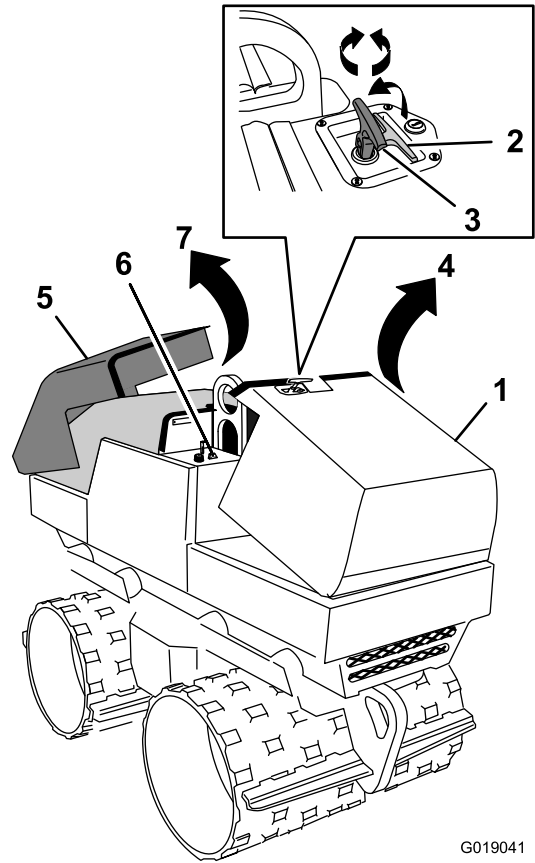

Figure 26
1. At the forward hood, pivot the latch handle for the hood to the vertical position (Figure 26).
2. Rotate the latch handle clockwise (Figure 26).
3. Grasp the latch handle tightly, and pull up firmly to unseat the hood from the hood clips (Figure 26).
4. Rotate the hood up (Figure 26).
2. Pull up firmly on the hood to unseat it from the hood clips (Figure 26).
3. Rotate the hood up (Figure 26).
2. Rotate the hood down (Figure 26).
1. Grasp the latch handle, and rotate the hood down (Figure 26).
3. Rotate the latch handle counterclockwise (Figure 26).
4. Pivot the handle down to the stowed position (Figure 26).